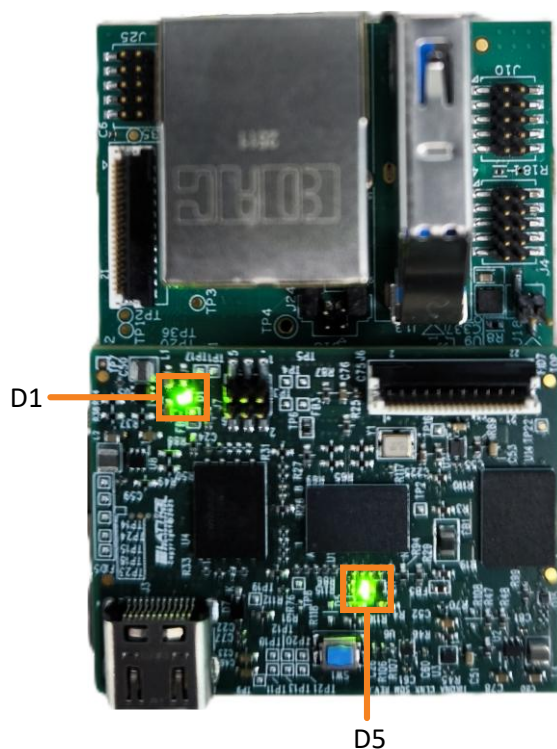

Figure 7.2. LED Position on CrossLinkU-NX SoM
4. Upon powering up, check the status of LEDs on the CrossLinkU-NX SoM HW board. Refer to Figure 7.2 for LED locations. These LEDs indicate the board's operation status. Table 7.1 describes each LED behavior upon boot up.